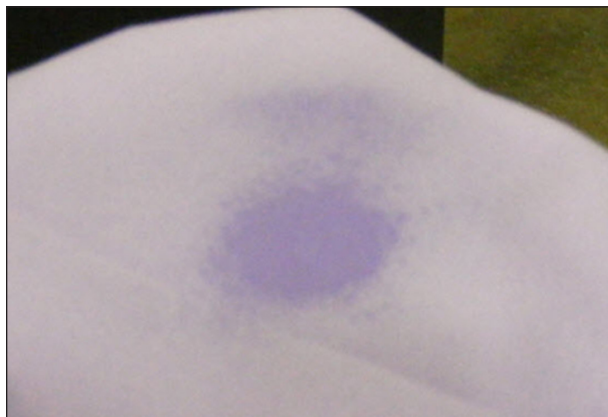

Figure 2: Moisten Cloth
2. Pour isopropyl rubbing alcohol into a squirt bottle and squirt the microfiber cloth twice to moisten it. Refer to **Figure 2**.